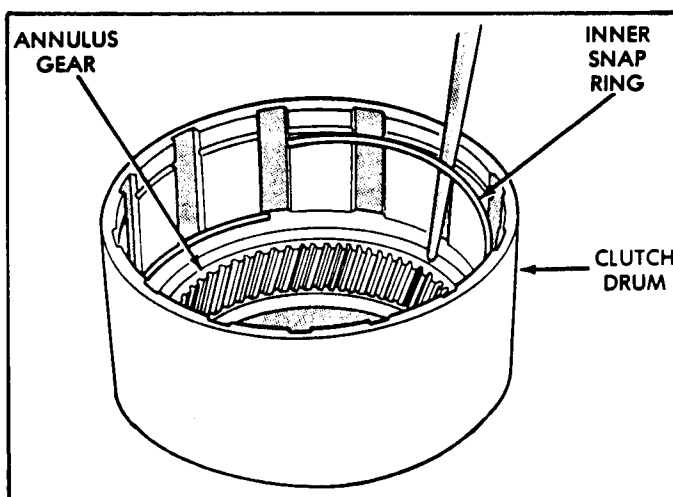

Figure 5
7. Turn the assembly over and install the inner snap ring in direct drum, shown in Figure 5.